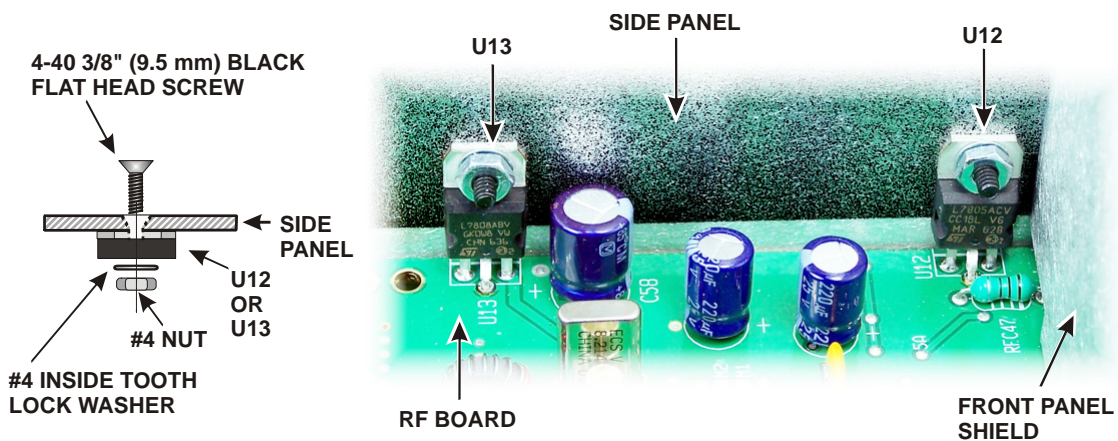

Figure 2. U13 and U12 Mounting Hardware.
- Remove the hardware securing the heat sinks of U13 and U12 to the right side panel (see Figure 2). Be careful not to lose the lock washers inside the K3.
Replace the two 4-40 3/8" (9.6 mm) black flat head screws, lock washers and nuts to secure the heat sinks of U13 and U12 to the side panel as shown in Figure 2.